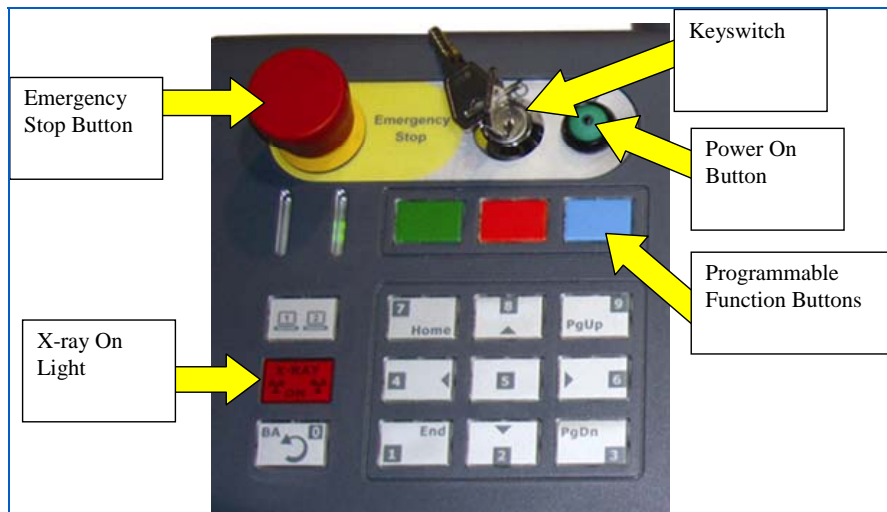

Figure 75: Emergency Stop, Key switch, Indicator Lights and Keypad
2. Rotate the key switch on the power control panel and push the “Power On” button (Figure 75)